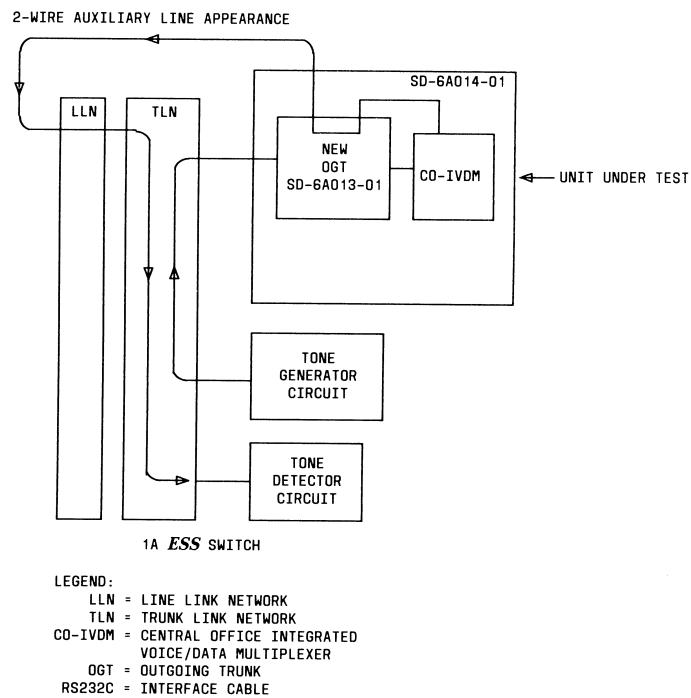

Fig. 29 — Voice Diagnostic Configuration
The voice diagnostic test (Fig. 29) tests the relays of the CDFP OGT, verifies network continuity to the CDFP line appearance, and verifies the quality of voice as it passes through the CO-IVDM. This test may be requested by performing Step (1) or Step (2).
- (1) If testing at the TLTP, dial 6-digit TNN, then dial \*00 and #. Refer to AT&T Practice 231-050-009 for detail procedures.
- (2) If testing at MTCE terminal, type one of the following: